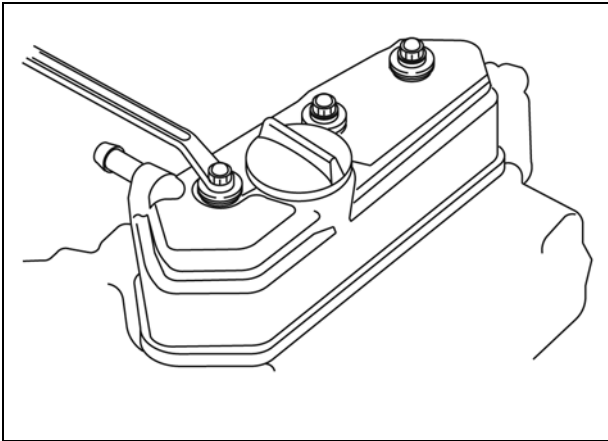

Figure 41
- 3. With Number 1 piston at TDC of compression stroke, check and adjust valve clearances for cylinders (Figure 41).
- 5. Install valve cover (Figure 41). Torque cover nuts to values listed in Section 14 - Engine Specifications.